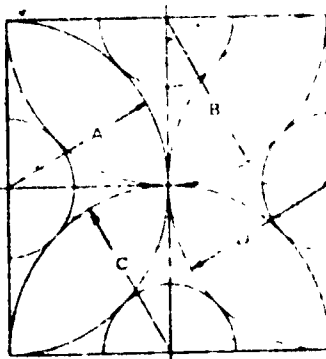

FIGURE 3
- B. Directions: Construct a $3\frac{1}{2}$ " square centered on the right side of the vellum used for Problem A and construct a figure like the one shown in Figure 3 in that space. Construct a 3" circle from center point, and then construct four $1\frac{3}{4}$ " radius arcs using corners or squares as center points. Draw an inner circle so that it intersects as shown in Figure 3, and complete the problem by adding center lines.